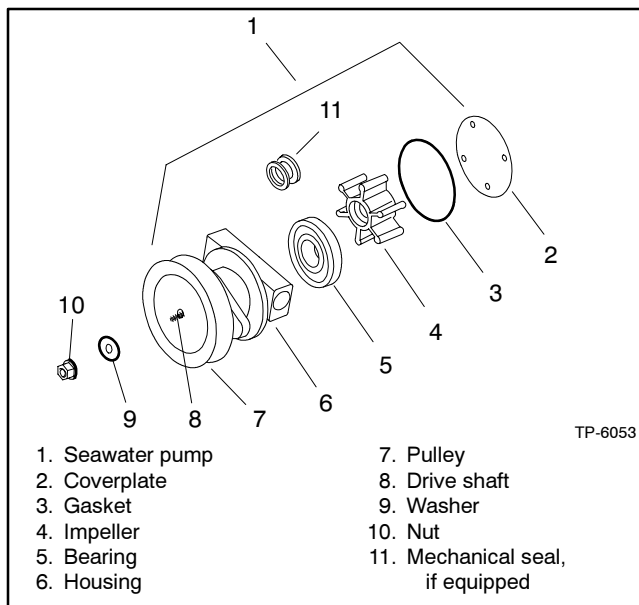

Figure 3-6 Seawater Pump, Typical
2. Remove the seawater pump coverplate. See Figure 3-6.